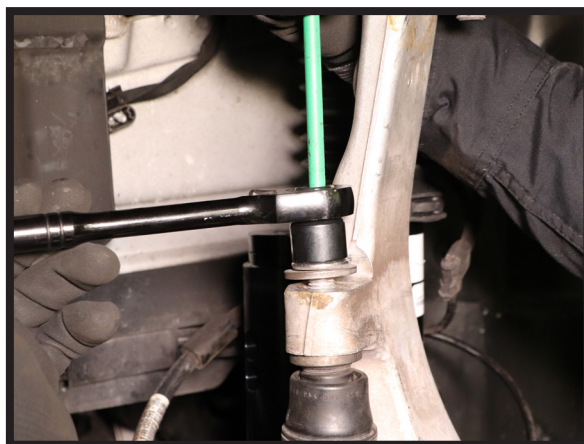

FIGURE 27
8. REINSTALL SWAY ARM LINK NUT AND TIGHTEN TO MANUFACTURER'S SPECIFICATIONS. (FIGURE 27)